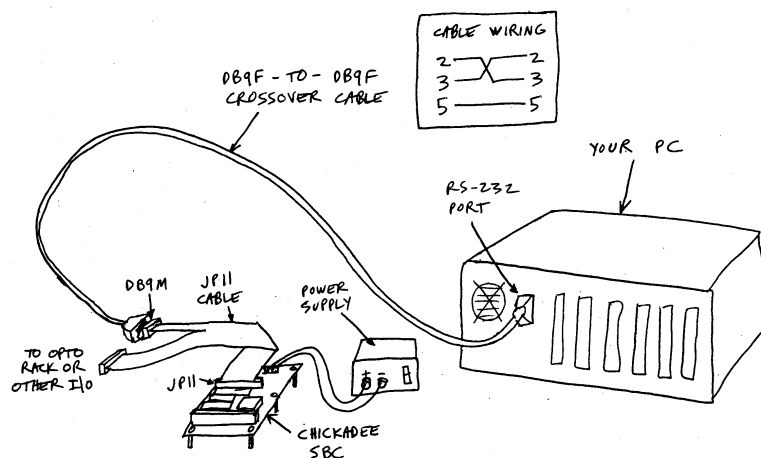

Fig. 2-1: Chickadee Development Setup
- 8) Connect the DB9F to DB9F null-modem serial adapter (crossover cable) to the DB9M on your PC. See Fig. 2-1. If your PC's serial port does not use a DB9M AT-style serial connector, you will need an adapter.